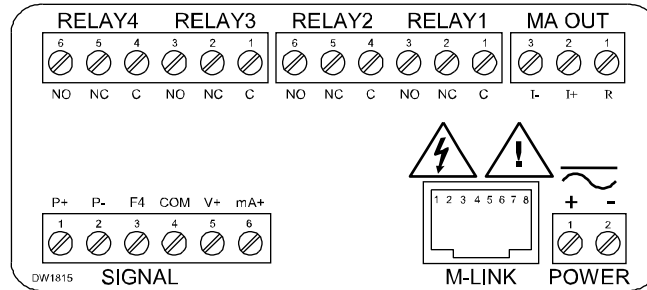

Figure 3. Connector Labeling for Fully Loaded PD6000
Power connections are made to a two-terminal connector labeled POWER on Figure 3 on page 13. The meter will operate regardless of DC polarity connection. The + and - symbols are only a suggested wiring convention.
Signal connections are made to a six-terminal connector labeled SIGNAL on Figure 3. The COM (common) terminal is the return for the 4-20 mA and the ± 10 V input signals.
Relay connections are made to two six-terminal connectors labeled RELAY1 – RELAY4 on Figure 3. Each relay's C terminal is common only to the normally open (NO) and normally closed (NC) contacts of the corresponding relay. The relays' C terminals should not be confused with the COM (common) terminal of the INPUT SIGNAL connector.